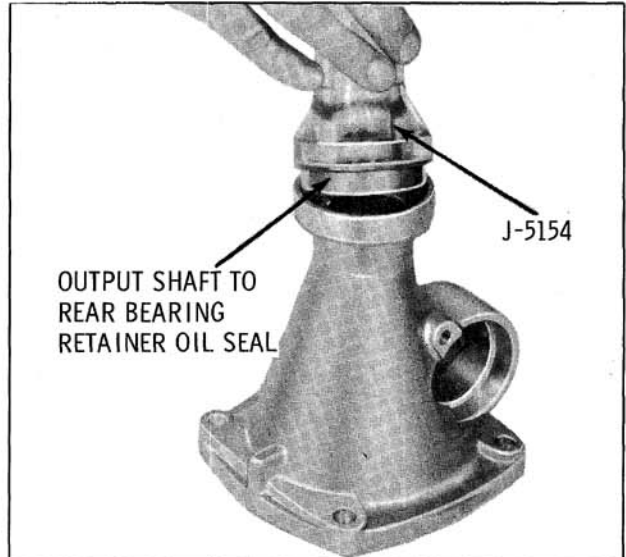

Fig. 6-523 Installing Oil Seal
4. Install output shaft to rear bearing retainer oil seal using Installer J-21426. (Fig. 6-523)